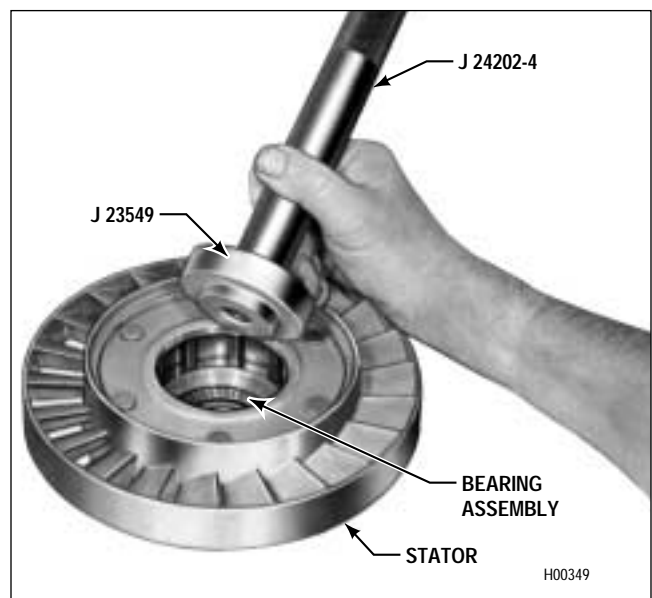

Figure 6-9. Installing Stator Thrust Bearing (AT 543)
(2) Place a new bearing assembly into the aluminum bore of the stator. Using bearing installer tool J 23549 and handle J 24202-4, install the thrust bearing (Figure 6-9).
Apply the load only to the outer shell of the bearing during installation (Figure 6-9).